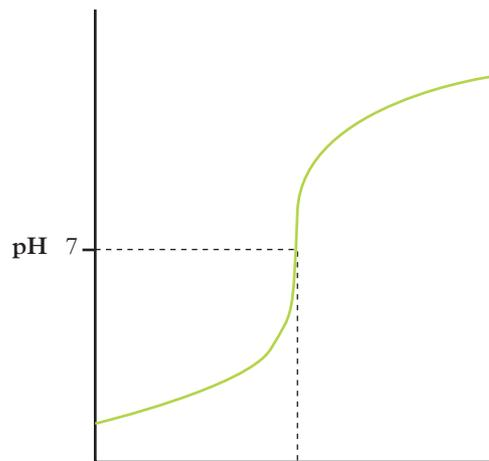

FIGURE 2 A titration curve
- 23 Analyse the titration curve in Figure 2.